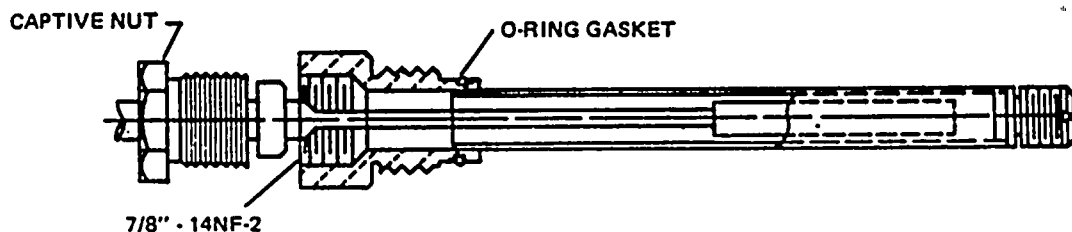

Figure 6. Thermometer well.
1. Remove thermometer from well by loosening the captive nut which secures it to the well. The well must be held securely with a second wrench during this operation (Figure 6).
2. Remove thermometer bulb from the well by loosening the captive nut which secures it to the well. The well must be held securely with a second wrench during removal (Step 4). See Figure 6.